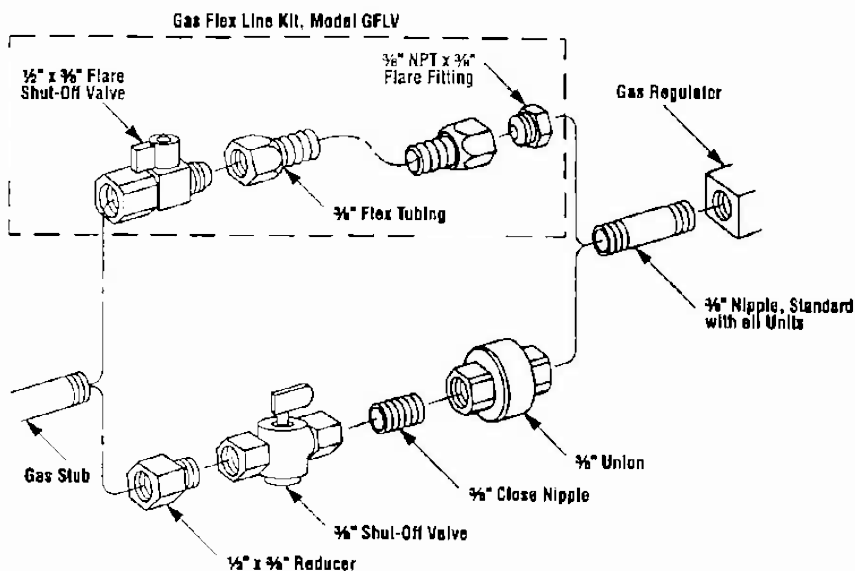

Figure 9
Step 5. Connecting Gas Line – Make gas line connections. All codes require a shut-off valve mounted in the supply line. Figure 9 illustrates two methods for connecting the gas supply. Installation methods and materials must be in compliance with local codes.